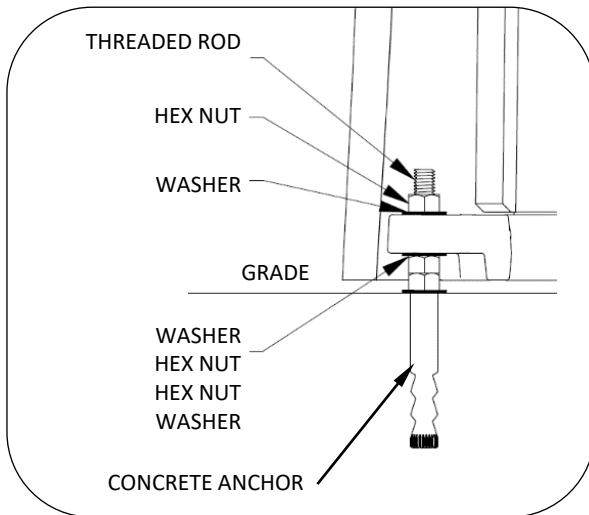

FIG. 5 – ANCHOR ASSEMBLY
10. Install washer, two hex nuts and washer onto each threaded rod, see Fig. 5.
12. Set bollard core over threaded rods. Install hex nut and washer, see Fig. 5.